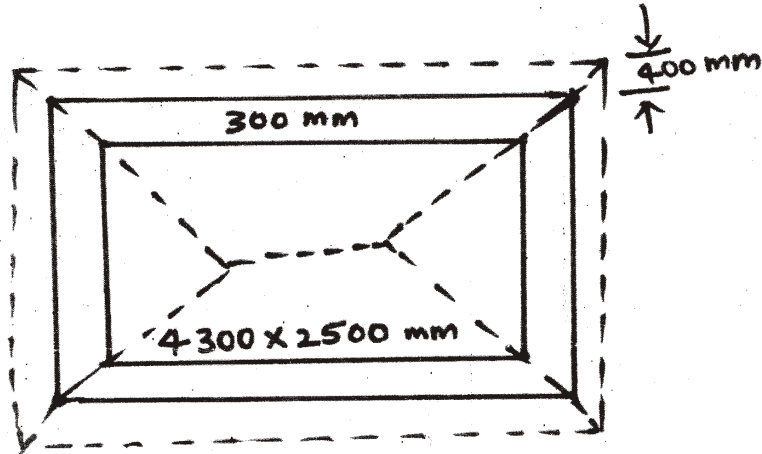

Fig. 2
9. Calculate the length of common rafter and No. of common rafters for the Fig. 2 with the following data :